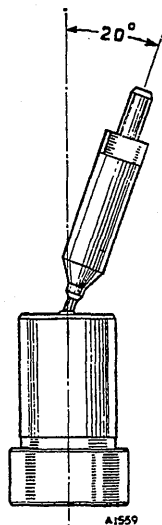

Fig. C. 25
(16) Examine the conical surface which forms the seat of the nozzle valve through a nozzle microscope. The most critical part of the conical surface is where it forms an angle with the parallel stem. This angle should be sharp and clearly defined, with no rounding or wear breaking the knife-edge anywhere on its diameter. Check the pintle clearance as shown in Fig. C.25.
(17) If all the components appear serviceable, assemble the injector as described in (32) and (33). Then adjust and test the injector as described in (34) to (43). Provided the wear is not excessive, an unserviceable nozzle body and valve can be reconditioned on a nozzle grinding and lapping machine as described in (18) to (31).